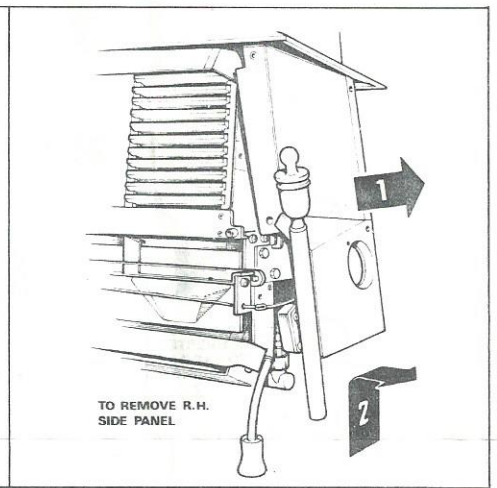

FIG. 6
5. Pull the back of the right-hand side sufficiently to the right to clear the backpanel. Lift the bottom front edge of the panel sufficiently to dislodge the decorative leg location, lower and remove the right-hand side panel. (See Fig. 6).